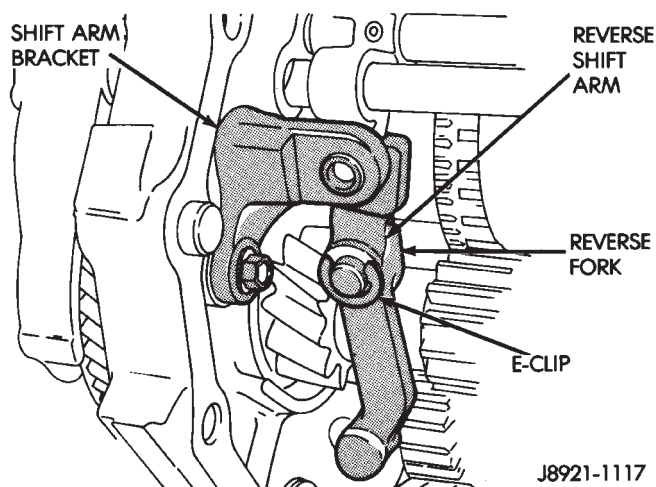

Fig. 110 Reverse Shift Arm And Bracket Installation
(14) Install reverse shift arm bracket (Fig. 110). Tighten bracket bolts to 18 N•m (13 ft. lbs.) torque.
(15) Install reverse shift arm (Fig. 110). Position arm on reverse fork pin and engage it with pin on shift arm bracket.